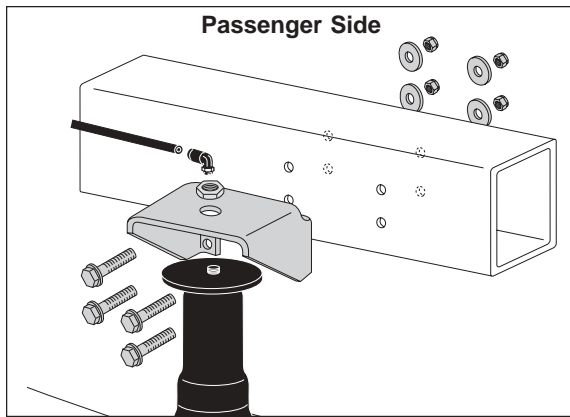

Figure 7
IMPORTANT: This kits mounts behind the axle. Figure 1 shows the installation for the driver side only. Refer to Figure 7 for the passenger side installation.
- g. Drill the remaining hole out to a $\frac{3}{8}$ " diameter and install a $\frac{3}{8}$ " washer head bolt (N), a large flat washer (M), and a nylock nut (K).
3. **PASSENGER SIDE INSTALLATION:** Install the passenger side assembly in the same manner, with the exception to the forward upper hole location. Drill this hole to a $\frac{3}{8}$ " diameter and install a $\frac{3}{8}$ " washer head bolt (N), a large flat washer (M), and a nylock nut (K). No self tapper is used on the passenger side. Refer to Figure 7.